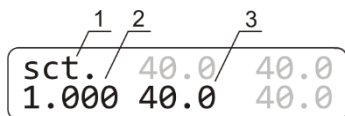

Figure 4. Display in calibration mode: 1. Calibration mode indicator; 2. Calibration coefficient; 3. Temperature with current coefficient
- 6.2. To change the calibration coefficient, hold the **TIME RUN/STOP** key pressed for more than 8 s to activate calibration mode. The calibration coefficient appears on the display (figure 4).
Values marked in grey on figures 4 and 5 are not used in calibration and are meant for service engineers.
- 6.3. **Restoring factory settings.** Set 1.000 value using the **▲** and **▼ T, °C** keys as shown on fig. 4/1 to restore the factory settings. Press the **RPM RUN/STOP** key once to save the changes and exit the calibration mode.
- 6.4.5. Hold the **TIME RUN/STOP** key pressed for more than 8 s to activate calibration mode (figure 4).